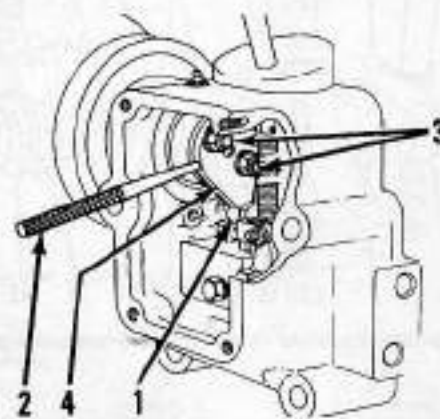
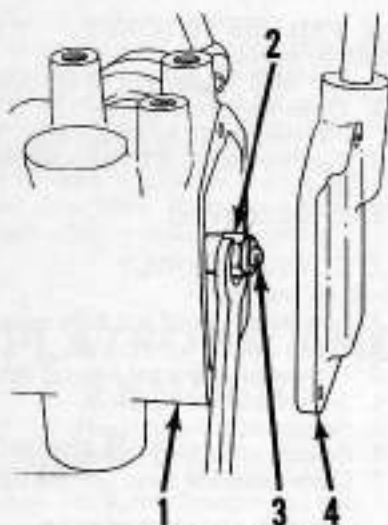
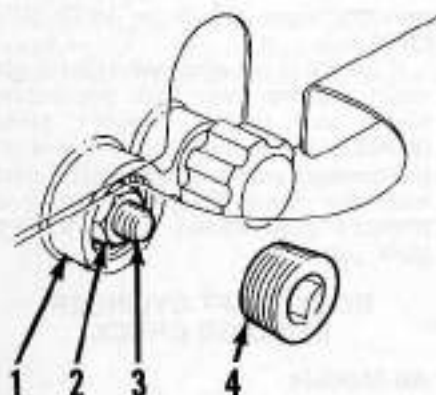
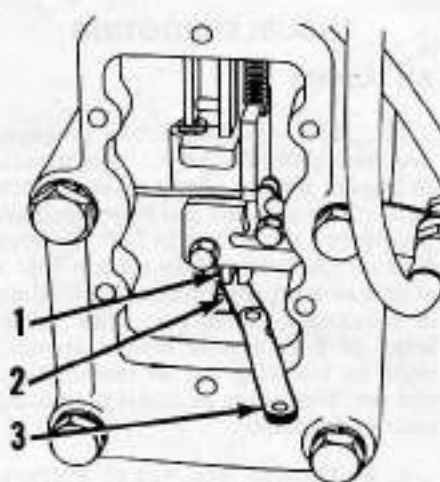

Fig. 225—View showing rockshaft cam location in rockshaft bracket.
Fig. 226—View showing location of locknut used to adjust connecting link on cab or platform equipped models.
Fig. 227—View showing location of locknut used to adjust connecting link on low profile models.
Fig. 228—View showing use of a feeler gage to adjust rocker lever in rockshaft bracket housing.
linkage to fully raised position, lower 40 mm (1.75 inches) measured at outer end of lift arm and support in this position with a suitable stand. Remove right-hand rockshaft bracket cover (27—Fig. 219), loosen the two nuts (3—Fig. 225), place punch (2) into hole in edge of rockshaft cam (4) and turn cam until roller (1) is seated in notch. Tighten nuts (3) to 10 N·m (7 ft.-lbs.) torque. Install cover and remove stand.
cover (4—Fig. 226). On all other models remove plug (4—Fig. 227). On all models, turn locknut (2) counter-clockwise until it is even with threaded end of connector link (3). Have quadrant lever
**405. TWO POSITION SELECTOR DIAL.** Hold quadrant lever in **SELECT** position and switch selector dial to **POSITION** control position. Remove control housing cover (4—Fig. 226) on cab and platform equipped models, or plug (4—Fig. 227) on all other models. On all models, turn locknut (2—Fig. 226 or 227) counter-clockwise until it is even with threaded end of connector link (3). Remove right-hand rockshaft bracket
cover (27—Fig. 219). Have quadrant lever held in **SELECT** position, raise lift arms by hand until roller (1—Fig. 225) is seated in notch of cam (4). Use a suitable stand to support lift arms in this position. Place a 0.051 mm (0.002 inch) feeler gage between rocker lever (2—Fig. 228) and push rod (1) for position control. Turn locknut (2—Fig. 226 or 227) clockwise just until feeler gage can be removed.